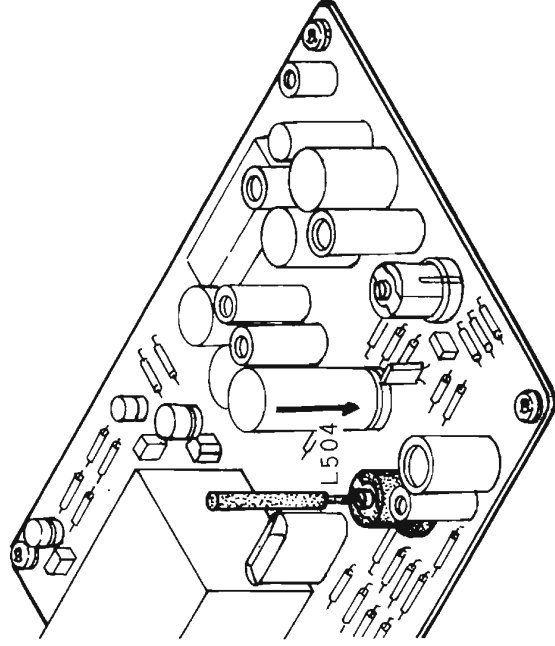

Fig. 4-2-3 Stereo Distortion Adjustment
- (e) Set all the controls to the ON position. Check the distortion in each channel. Adjust L504, the switching transformer, in the MPX Decoder section with a non-metallic alignment tool to obtain minimum distortion. See Fig. 4-2-3.